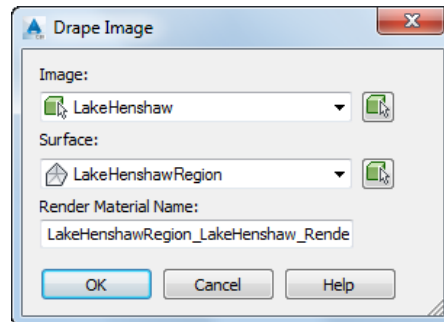

Figure 3-78 The Drape Image dialog box
2. In this tab, choose the **Drape Image** tool from the **Surface Tools** panel; the **Drape Image** dialog box is displayed, as shown in Figure 3-78. Accept the default values in the dialog box and choose the **OK** button; the dialog box is closed and the image is draped over the surface.